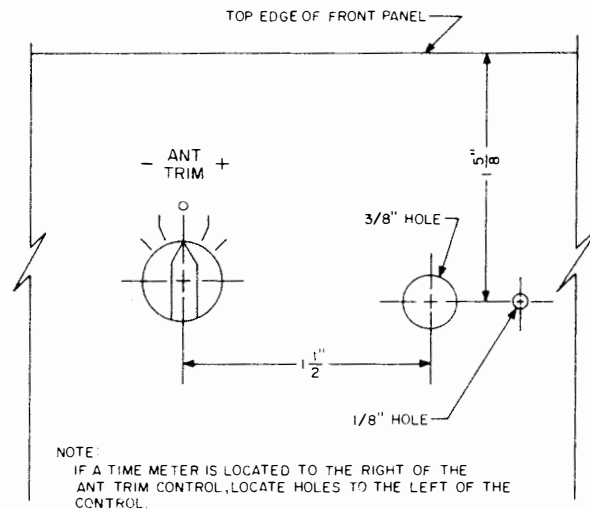

Figure 2. Front Panel Location
12. On the front panel of the receiver, to the right of the ANT TRIM control locate and center punch the point indicated in figure 2. Drill a 3/8 inch hole at this point.
14. Using the control, locate and drill a 1/8 inch hole for the control's position lock tab. Insert the control from front to locate hole. See figure 2.